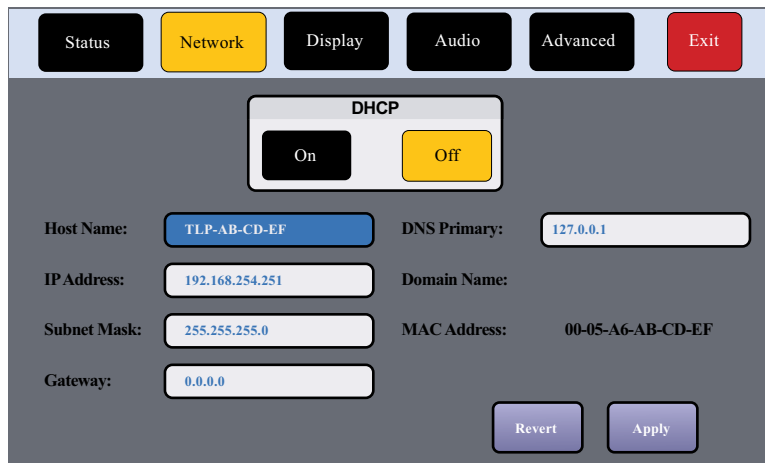

Figure 8. Network Screen
- When DHCP is off, the **Host Name** button is grayed out and host name cannot be edited. All addresses can be edited (as shown in figure 8).